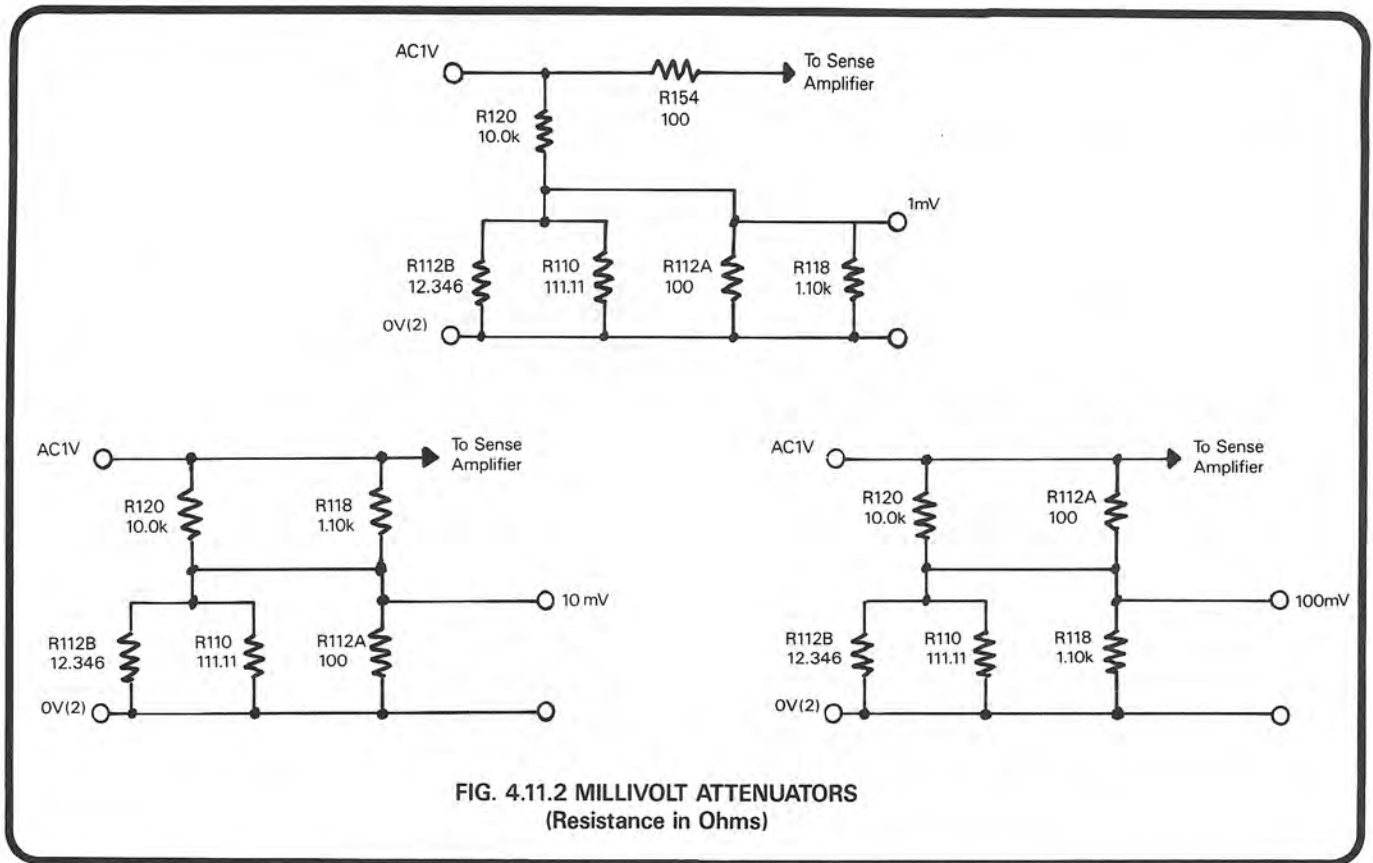

FIG. 4.11.2 MILLIVOLT ATTENUATORS
4.11.5.1 Millivolt Attenuators (Fig. 4.11.2)
The fixed chain (formed by R120 in series with the parallel combination of R112B and R110) is permanently connected between RL7-11 and the Common-2 star-point. Three levels of attenuation are achieved by switching R112A and R118. Relay RL5 is energized for the 10mV range only. RL6 for the 100mV range. The three arrangements are shown in Fig. 4.11.2.